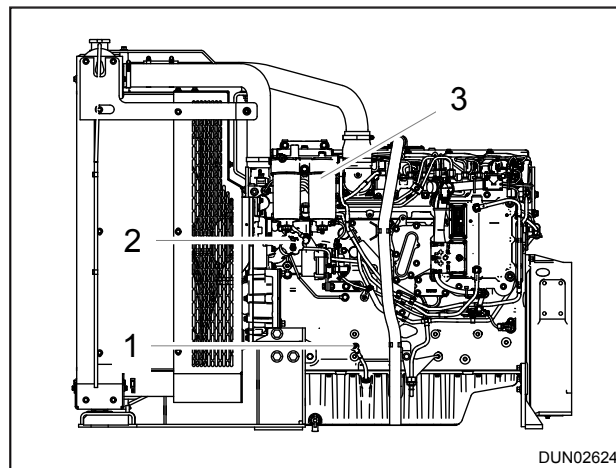

Figure 9.41 - Engine Oil Filters
2. Turn the ignition key to the 'ON' position (Item 2, Ref. Figure 9.41).
4. Turn the ignition key to the 'OFF' position (Item 1' Ref. Figure 9.41). The fuel system should now be primed and the engine should be able to start.
5. Turn the ignition key to the crank position (Item 3, Ref. Figure 9.41)